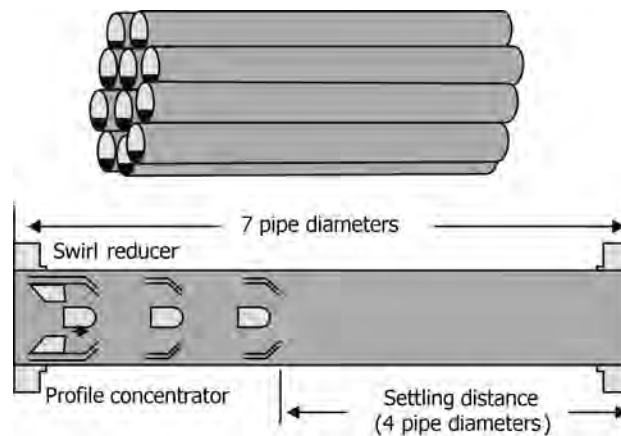

FIGURE 4.7 Flow straighteners.
- In order to reduce the straight run requirement, flow straighteners such as tube bundles, perforated plates, or internal tabs can be installed upstream of the primary element. Flow straighteners are illustrated in Figure 4.7.